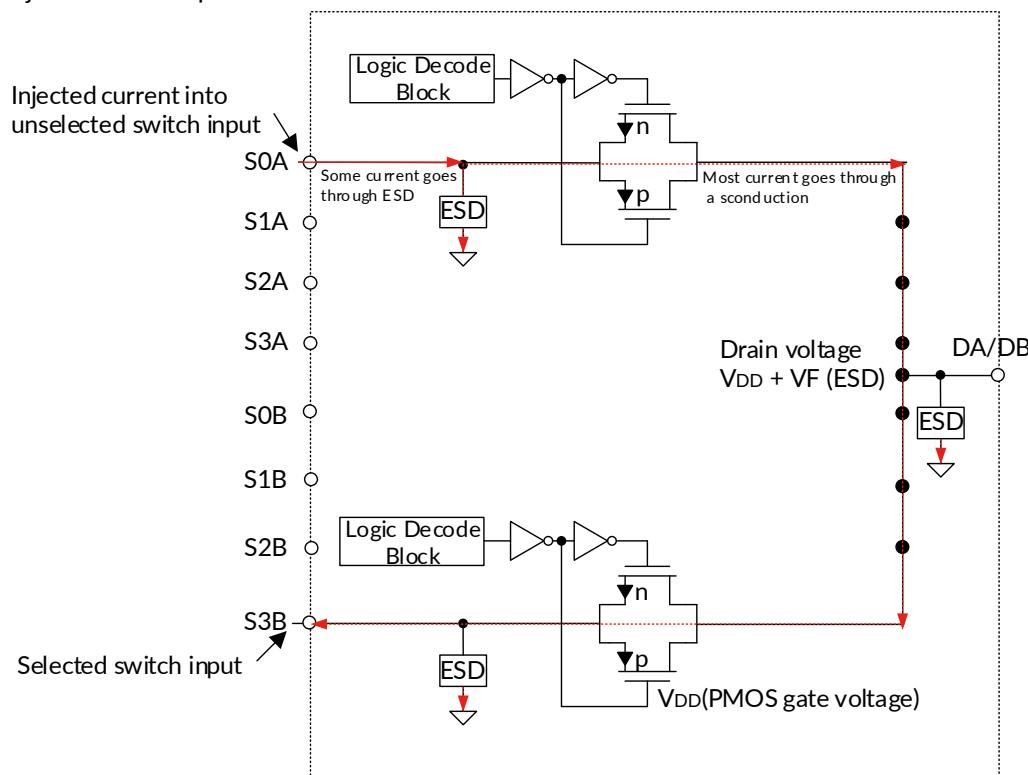

Figure 22. Simplified Diagram of Typical CMOS Switch and Associated Injected Current Path
Injected Current Impact: typical CMOS switches have ESD protection diodes on the inputs and outputs. These diodes not only serve as ESD protection but also provide a voltage clamp to prevent the inputs or outputs going above V_{DD} or below GND and V_{SS} . When current is injected into the pin of a disabled signal path, a small amount of current goes through the ESD diode but most of the current goes through conduction to the drain. If forward diode voltage of the ESD diode (VF) is greater than the PMOS threshold voltage (VT), then the PMOS of all OFF switches turns ON and there would be undesirable subthreshold leakage between the source and the drain that can lift the OFF source pins up also. Figure 22 shows a simplified diagram of a typical CMOS switch and associated injected current path.